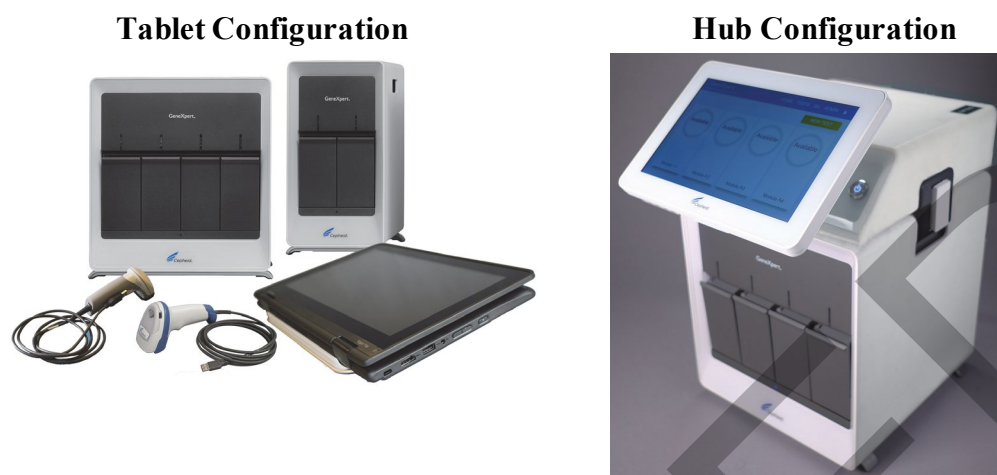

Figure 5. Tablet and Hub System Configurations
2. Determine which system configuration you have (Figure 5).